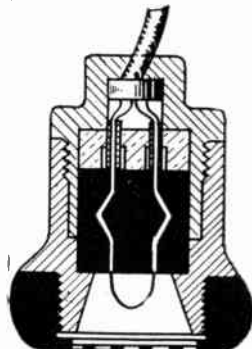

Fig. 3. A modification of the above, showing how the wires are secured.
to the line wires by contact rods, as shown in Fig. 3. Fig. 4 shows the matrix used to make the insulating piece (5). The wire is shaped into the loop-form by means of pliers or otherwise; it is bent slightly, as is shown in Fig. 4 at (3), so that the wire can be more solidly held in place in the block. The wire is then placed in the matrix and the melted insulator is poured in by the opening (4b) of Fig. 4. (4c, 4c) are air vents; when cooled the block is taken out of the mould and the loop of wire is stripped by placing it in nitric acid. Following this process, it is clear that interchangeable parts can be constructed having the same length